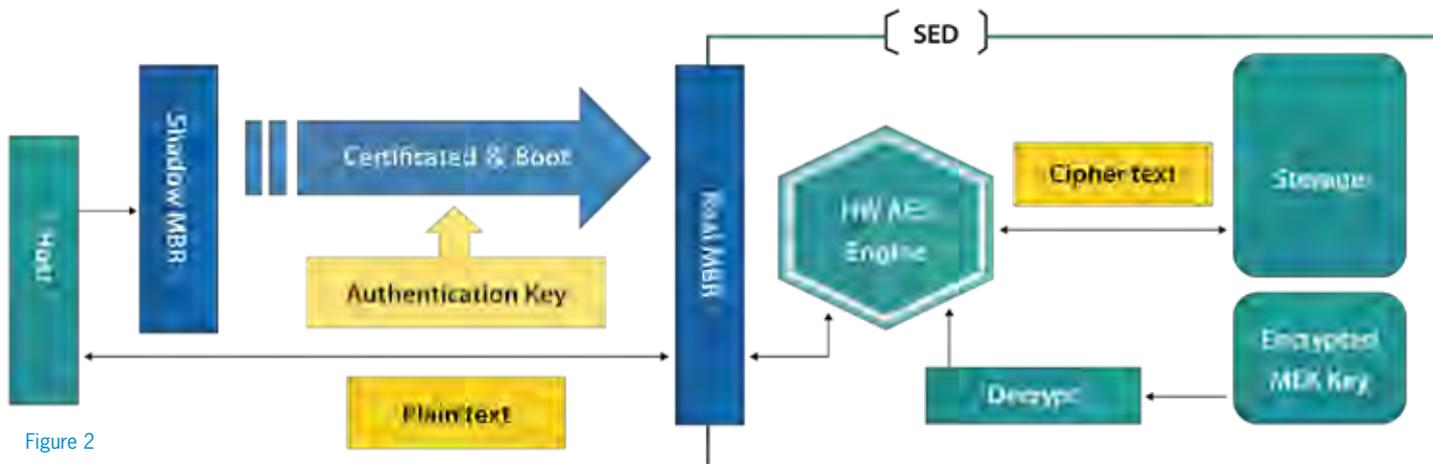

Figure 2
2. Supports boot authentication: When the user starts the device, a superordinate MBR (Master Boot Record) carries out pre-boot authentication; if the user is cleared, the normal boot process begins and connections to devices are made. See Figure 2.
The hardware purge pin is connected to the designated pin of the controller's GPIO (see Figure 2). Customized firmware settings are required to support the hardware purge pin.